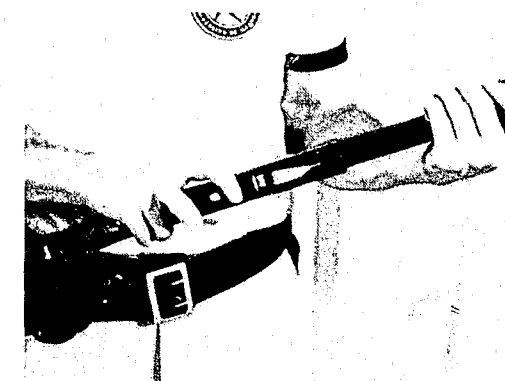

Figure 8-12
A. Loading for duty (four round magazine) (See Figures 8-12 through 8-15)